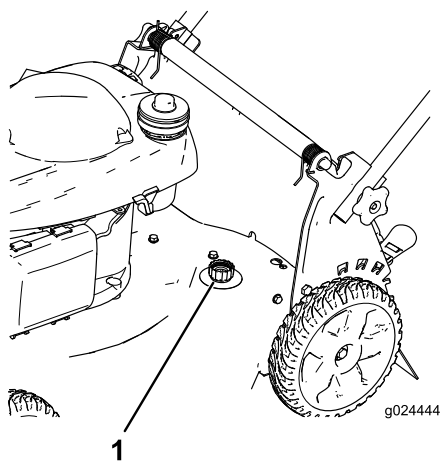

Figure 23
4. Attach a garden hose that is connected to a water supply to the washout port on the machine (Figure 23).